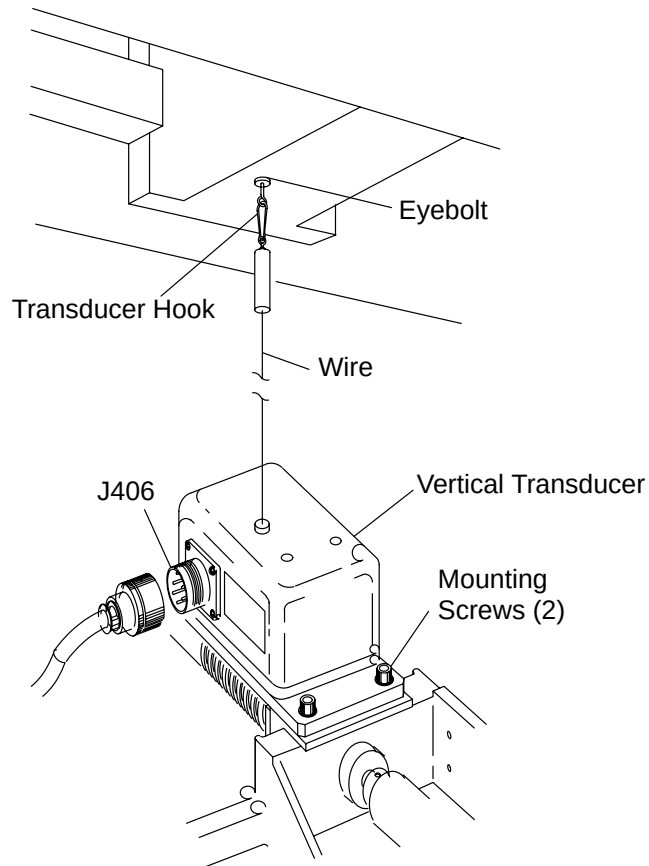

FIGURE 218 Patient Support Vertical Transducer
7. Remove the Transducer Hook from the Eyebolt on the bottom of the Subframe. See Figure 218.